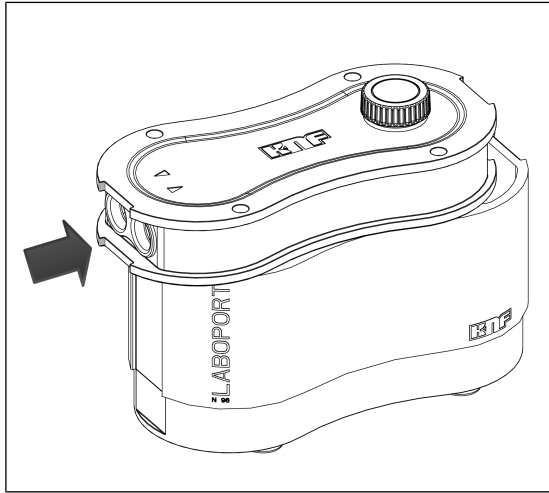

Fig.13: Pushing housing cover over gas connections (close pump)
2. Push the housing cover (2) over the gas connections until the geometry of the housing cover (2) is aligned with that of the pump housing (3) (see Fig. 13).